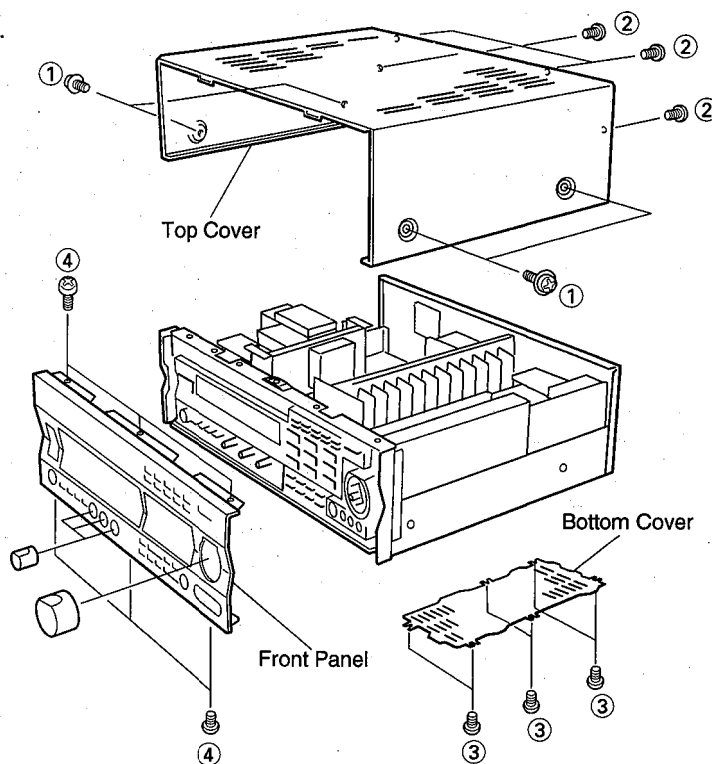

Fig. 1
- ⑫ P. C. B. DSP
- ⑬ P. C. B. OPERATION (7)
- ⑭ P. C. B. INPUT (1)
- ⑮ P. C. B. MAIN (3)
- ⑯ P. C. B. OPERATION (5)
- ⑰ P. C. B. MAIN (1)
- ⑱ P. C. B. MAIN (2)
- ⑲ P. C. B. MAIN (6)
a. Remove 4 screws (①), and 4 screws (②) in Fig. 1.
a. Remove 6 screws (③) in Fig. 1.
b. Remove 6 screws (④) in Fig. 1.